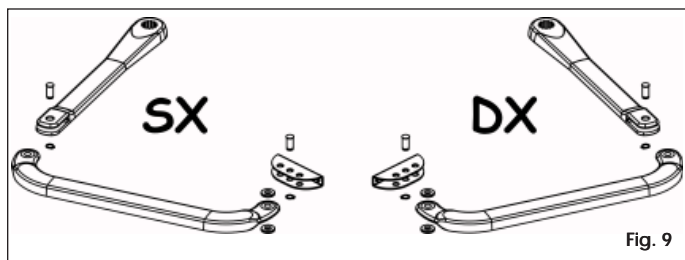

Fig. 9
- Assemble the articulated arm and front coupling as shown in Fig. 9.